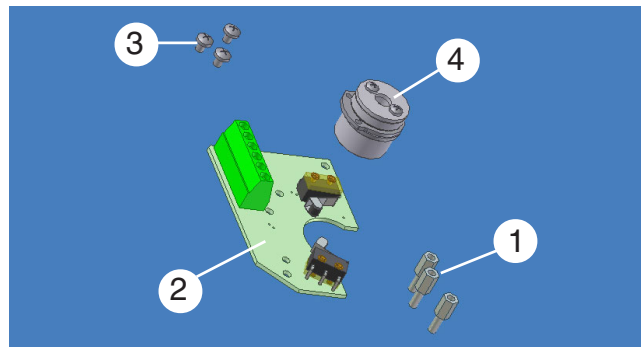

Figure 11. Limit switch
(Figure 11)
Switches (Figure 11)
1. Loosen the two screws on puck (4), figure 11.
6. Tighten the two screws on puck (4), figure 11.